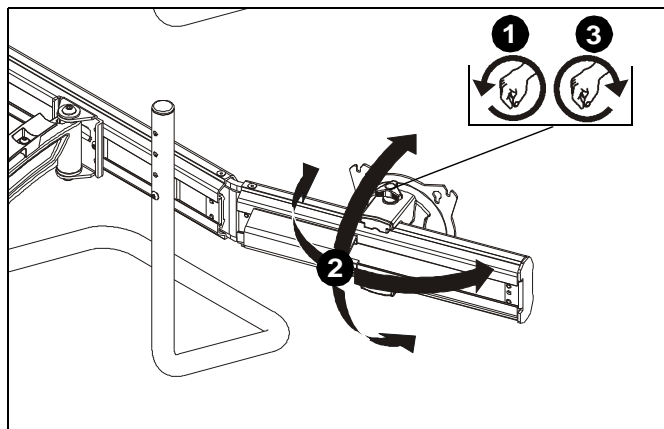

Figure 15
1. Loosen knob on top of faceplate assembly. (See Figure 15)
2. Adjust pitch, roll and/or yaw as desired. (See Figure 15)
3. Tighten knob to secure desired faceplate position. (See Figure 15)